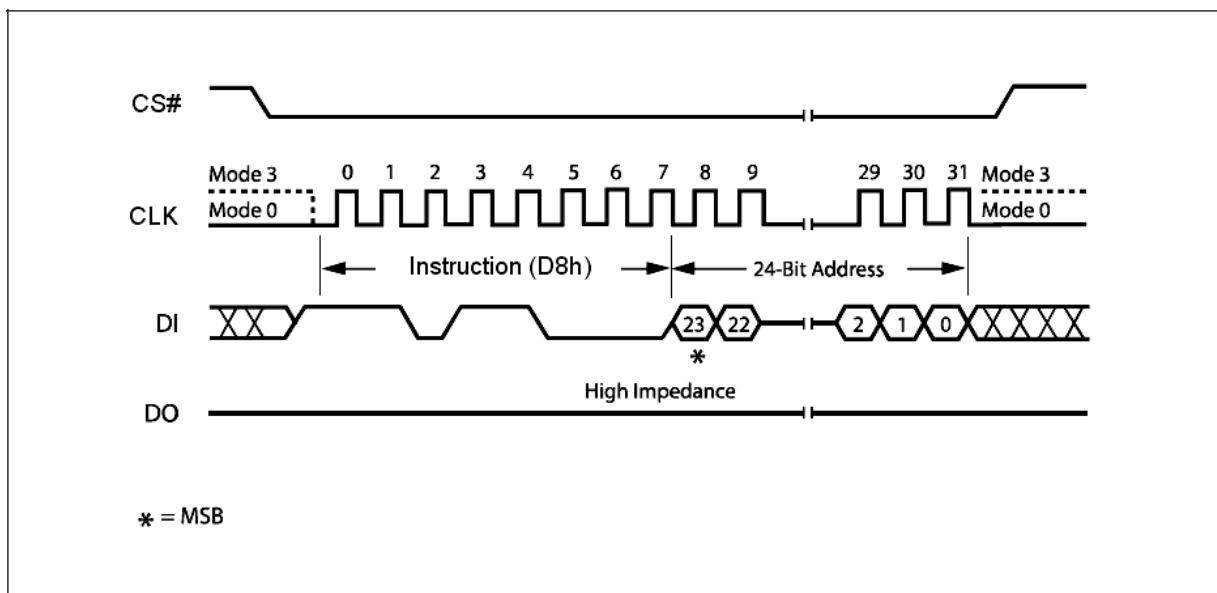

Figure 25. 64KB Block Erase Instruction Sequence Diagram
The instruction sequence is shown in Figure 25. Chip Select (CS#) must be driven High after the eighth bit of the last address byte has been latched in, otherwise the Block Erase (BE) instruction is not executed. As soon as Chip Select (CS#) is driven High, the self-timed Block Erase cycle (whose duration is t_{BE}) is initiated. While the Block Erase cycle is in progress, the Status Register may be read to check the value of the Write In Progress (WIP) bit. The Write In Progress (WIP) bit is 1 during the self-timed Block Erase cycle, and is 0 when it is completed. At some unspecified time before the cycle is completed, the Write Enable Latch (WEL) bit is reset.